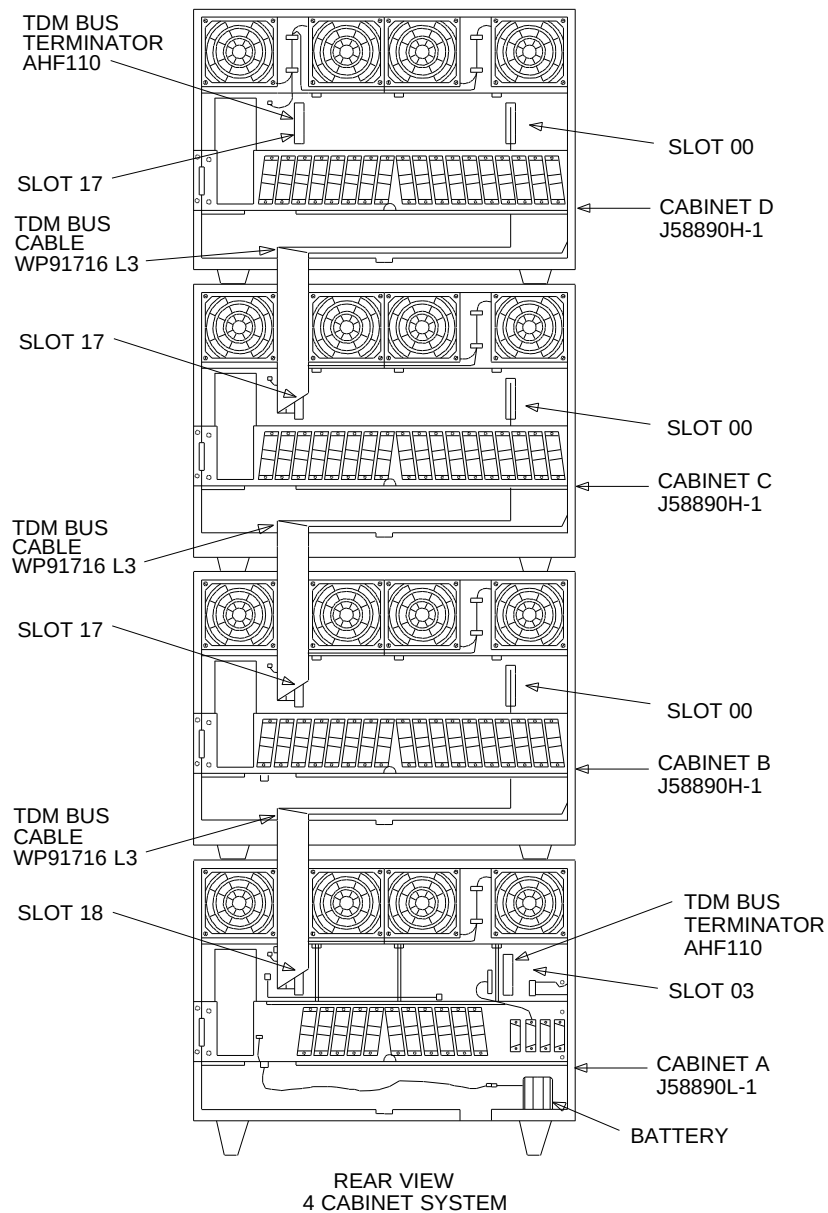
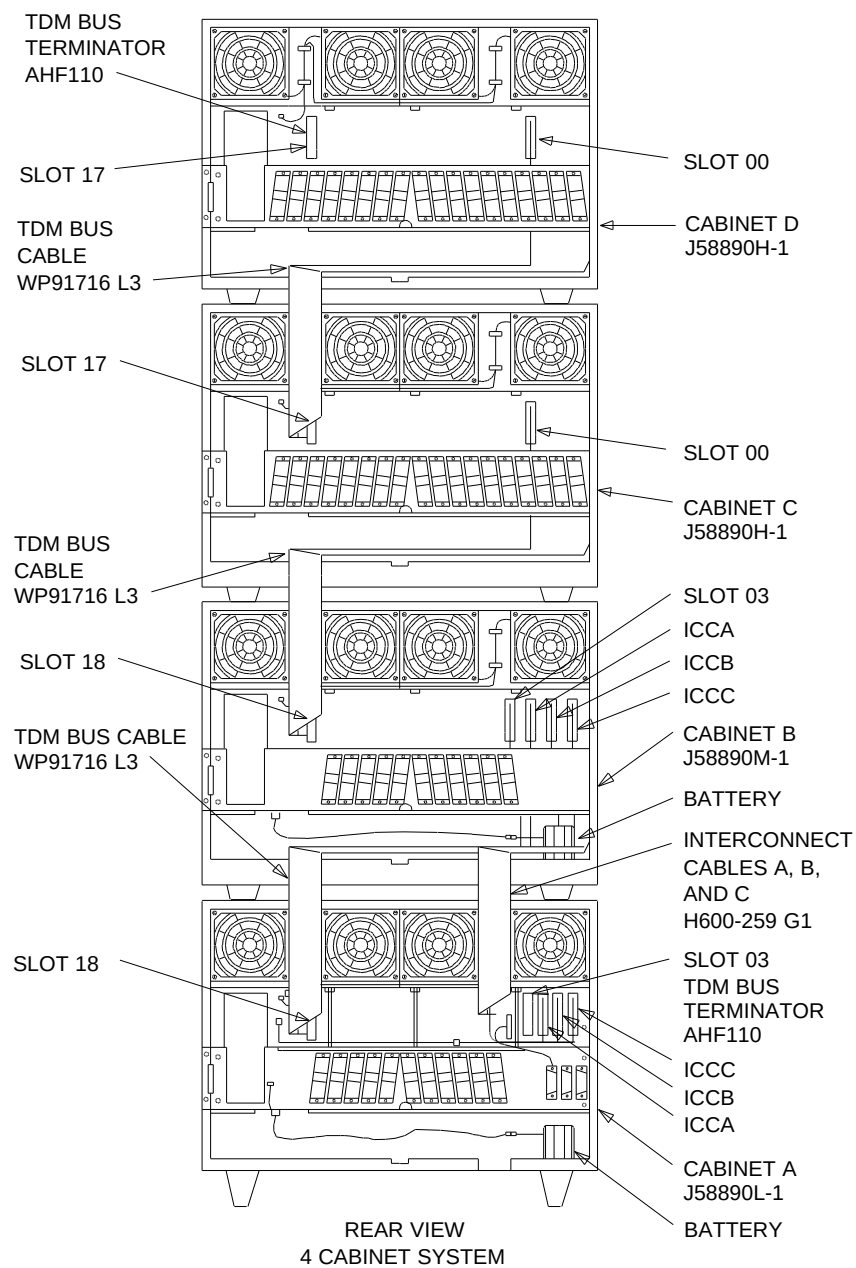

Figure 3-19. TDM Bus Connections for Standard-Reliability PPN
Figure 3-20. TDM Bus Connections for Critical-Reliability PPN
1. Remove the TDM bus terminator on slot 18 of control cabinet A and move it to slot 17 on the top port cabinet (Figure 3-19 or 3-20).
2. Connect TDM bus cables as shown in Figure 3-19 (standard reliability) or Figure 3-20 (critical reliability). The TDM bus cable is located behind the lower panel.
3. Connect Intercabinet cables for Critical-Reliability PPN cabinet as shown in Figure 3-20 and Table 3-1.